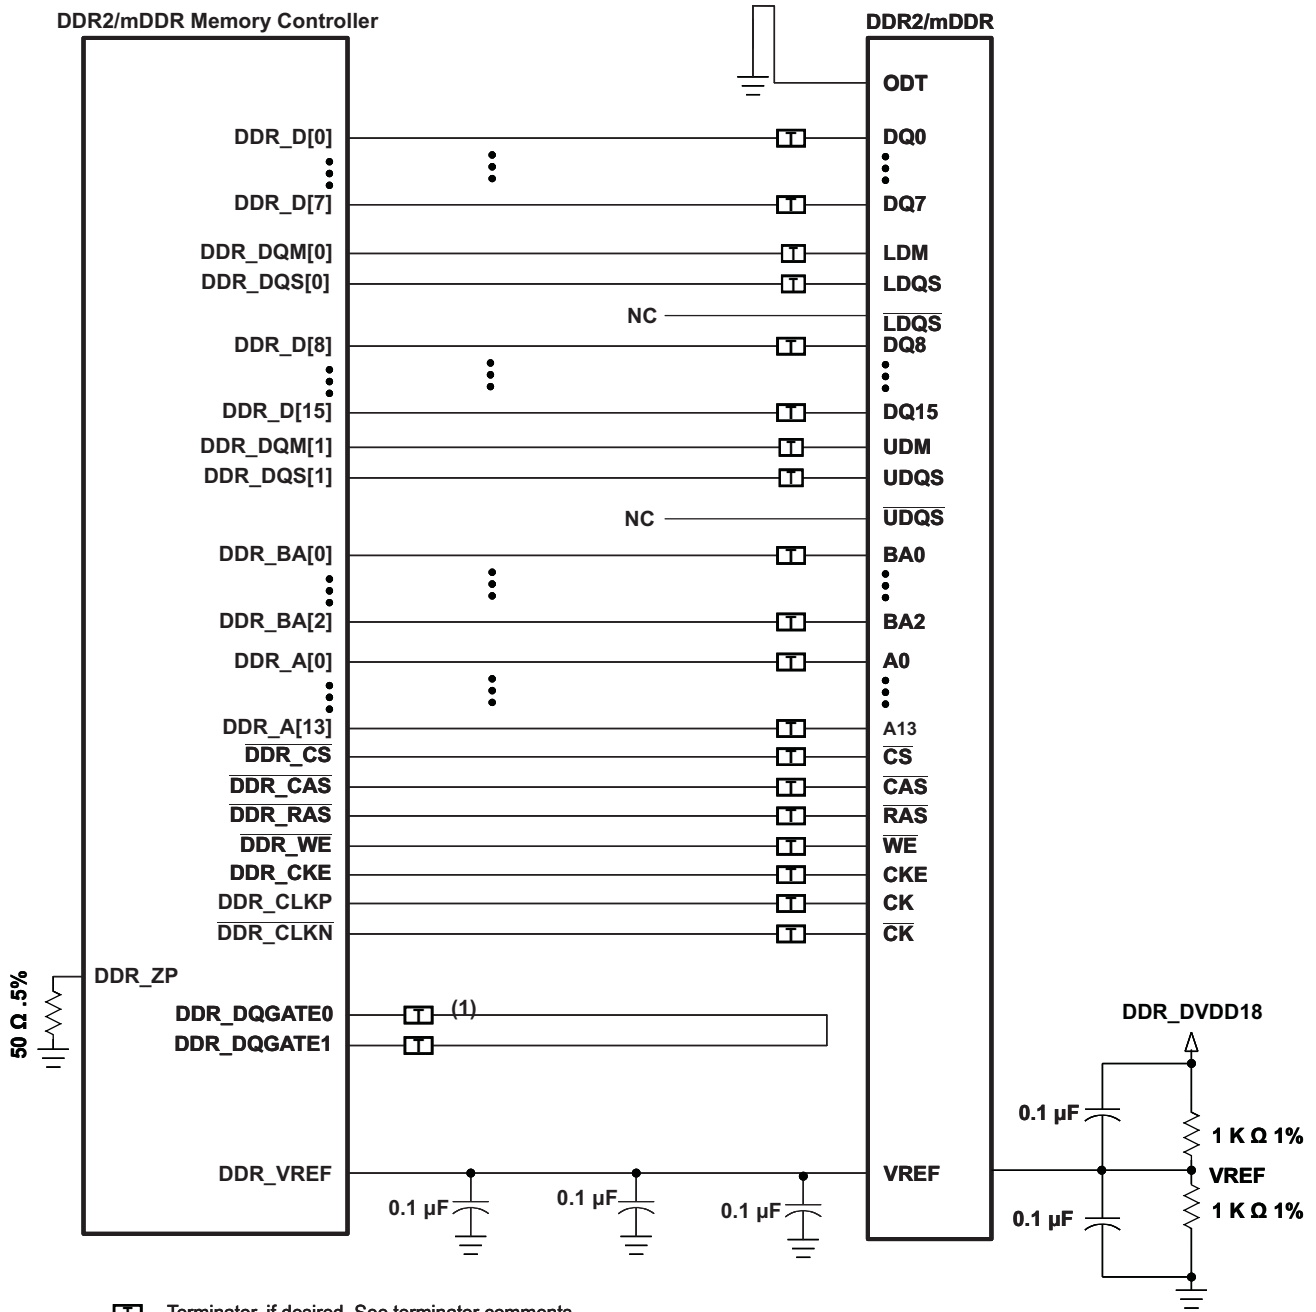
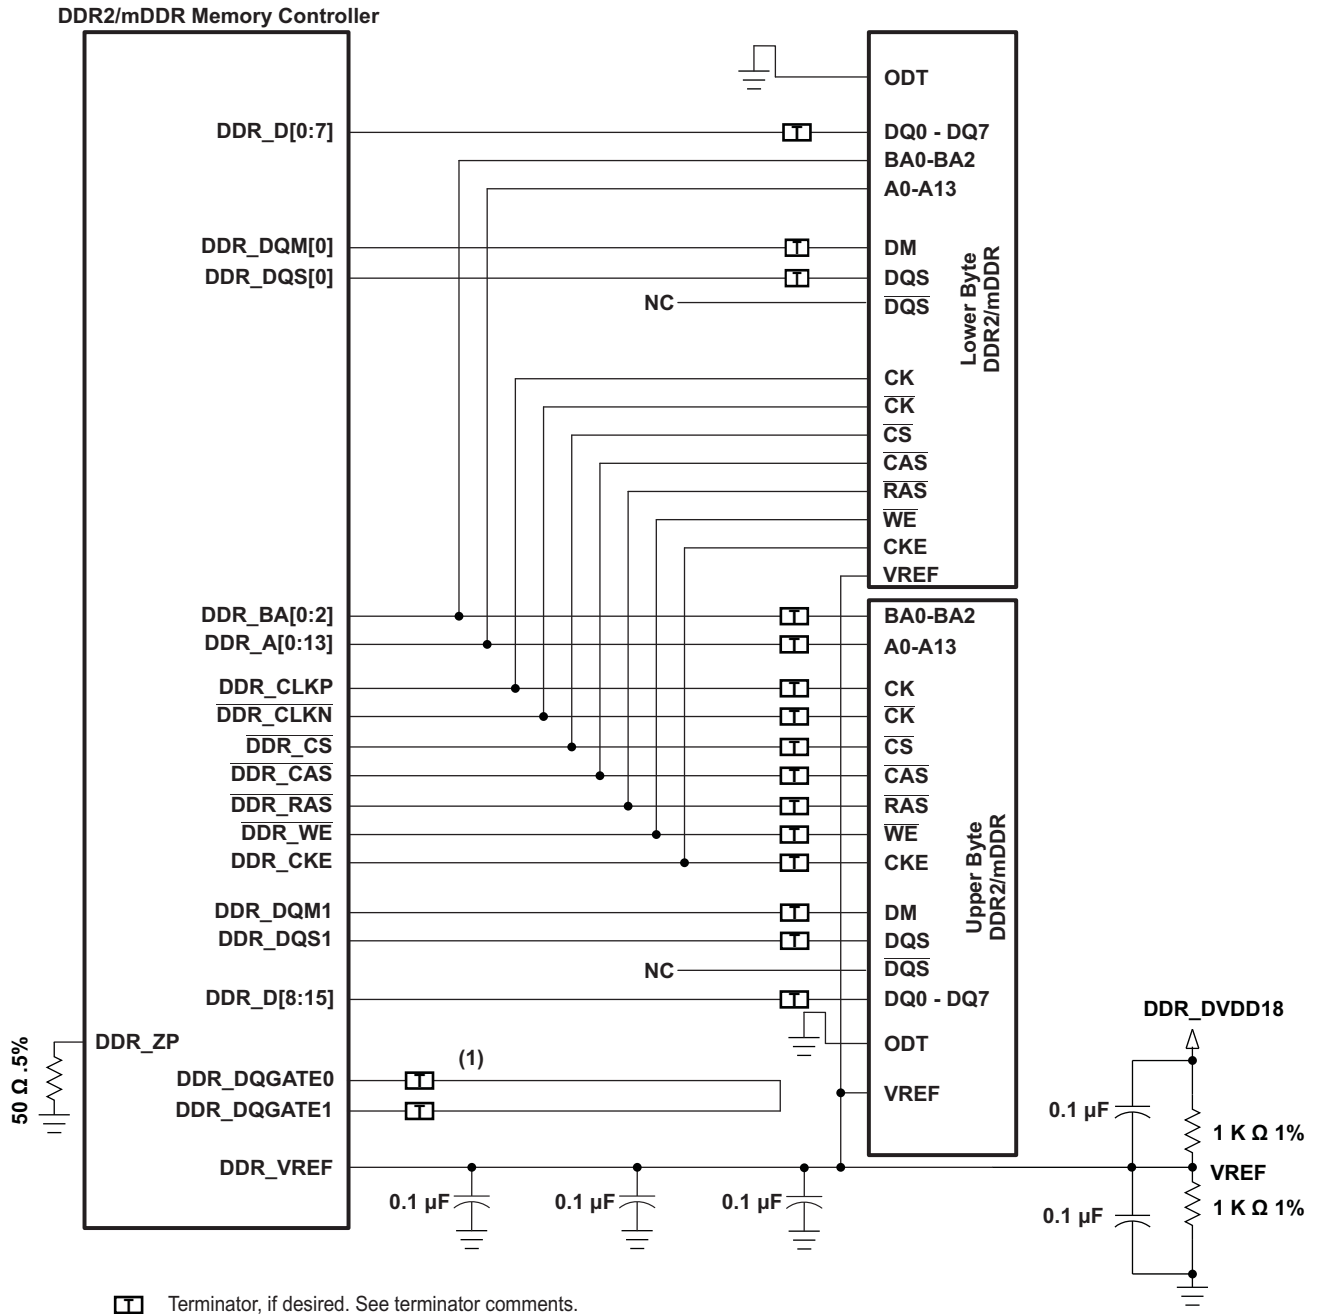
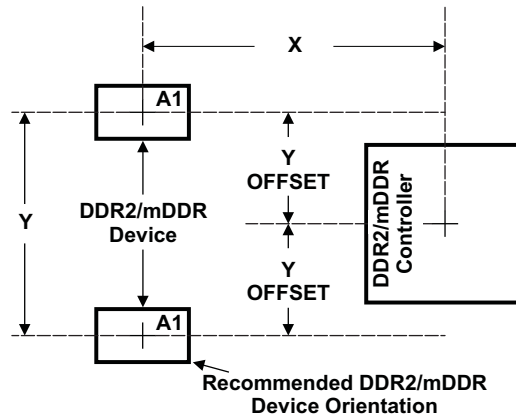

Figure 6-18. DDR2/mDDR Single-Memory High Level Schematic
Figure 6-19. DDR2/mDDR Dual-Memory High Level Schematic
Figure 6-20. OMAP-L138 and DDR2/mDDR Device Placement
Figure 6-18 shows the DDR2/mDDR interface schematic for a single-memory DDR2/mDDR system. The dual-memory system shown in Figure 6-19. Pin numbers for the device can be obtained from the pin description section.
Figure 6-19 shows the required placement for the OMAP-L138 device as well as the DDR2/mDDR devices. The dimensions for Figure 6-20 are defined in Table 6-29. The placement does not restrict the side of the PCB that the devices are mounted on. The ultimate purpose of the placement is to limit the maximum trace lengths and allow for proper routing space. For single-memory DDR2/mDDR systems, the second DDR2/mDDR device is omitted from the placement.
- (1) See Figure 6-20 for dimension definitions.
- (2) Measurements from center of device to center of DDR2/mDDR device.
- (3) For single memory systems it is recommended that Y Offset be as small as possible.
- (4) Non-DDR2/mDDR signals allowed within DDR2/mDDR keepout region provided they are separated from DDR2/mDDR routing layers by a ground plane.